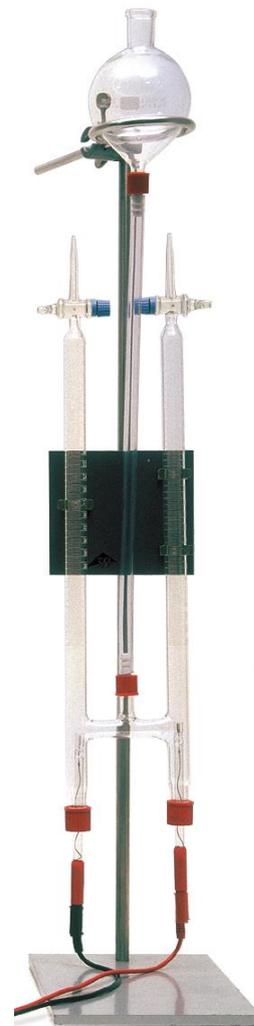

Fig. 1: Hofmann's water decomposition apparatus
- First attach the levelling bulb as far up as possible on the stand rod (Fig. 1). Pull the support ring forward out of the clamp as far as it will go.